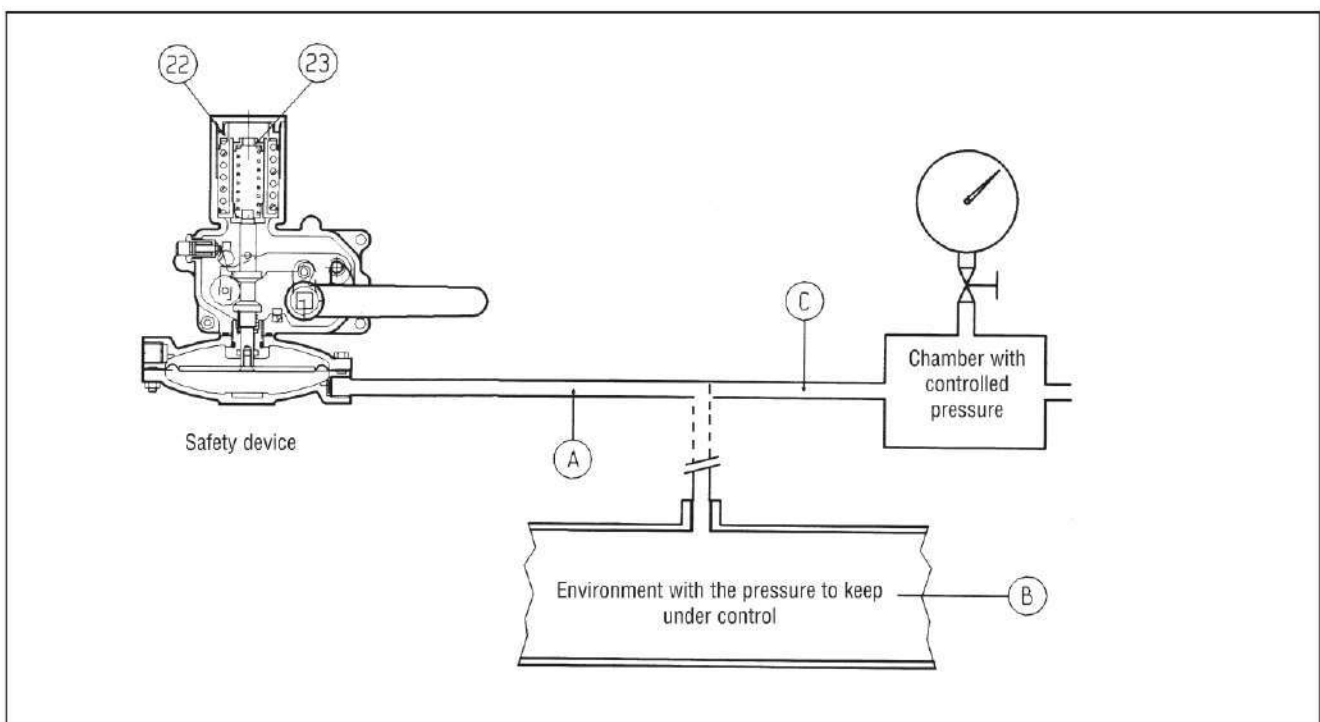

Fig. 18
B) On devices without the "push" valve (fig. 18) we recommend separately connecting the control head to a controlled auxiliary pressure and repeat the operations described above.
- B) On devices without the "push" valve (fig. 18) we recommend connecting the control head separately to a controlled auxiliary pressure and repeat the operations described above.